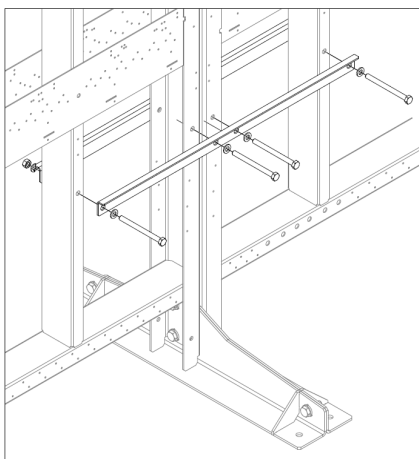

Figure 10
- 4 from the lower stiffener members. Refer to **Figure 10**.